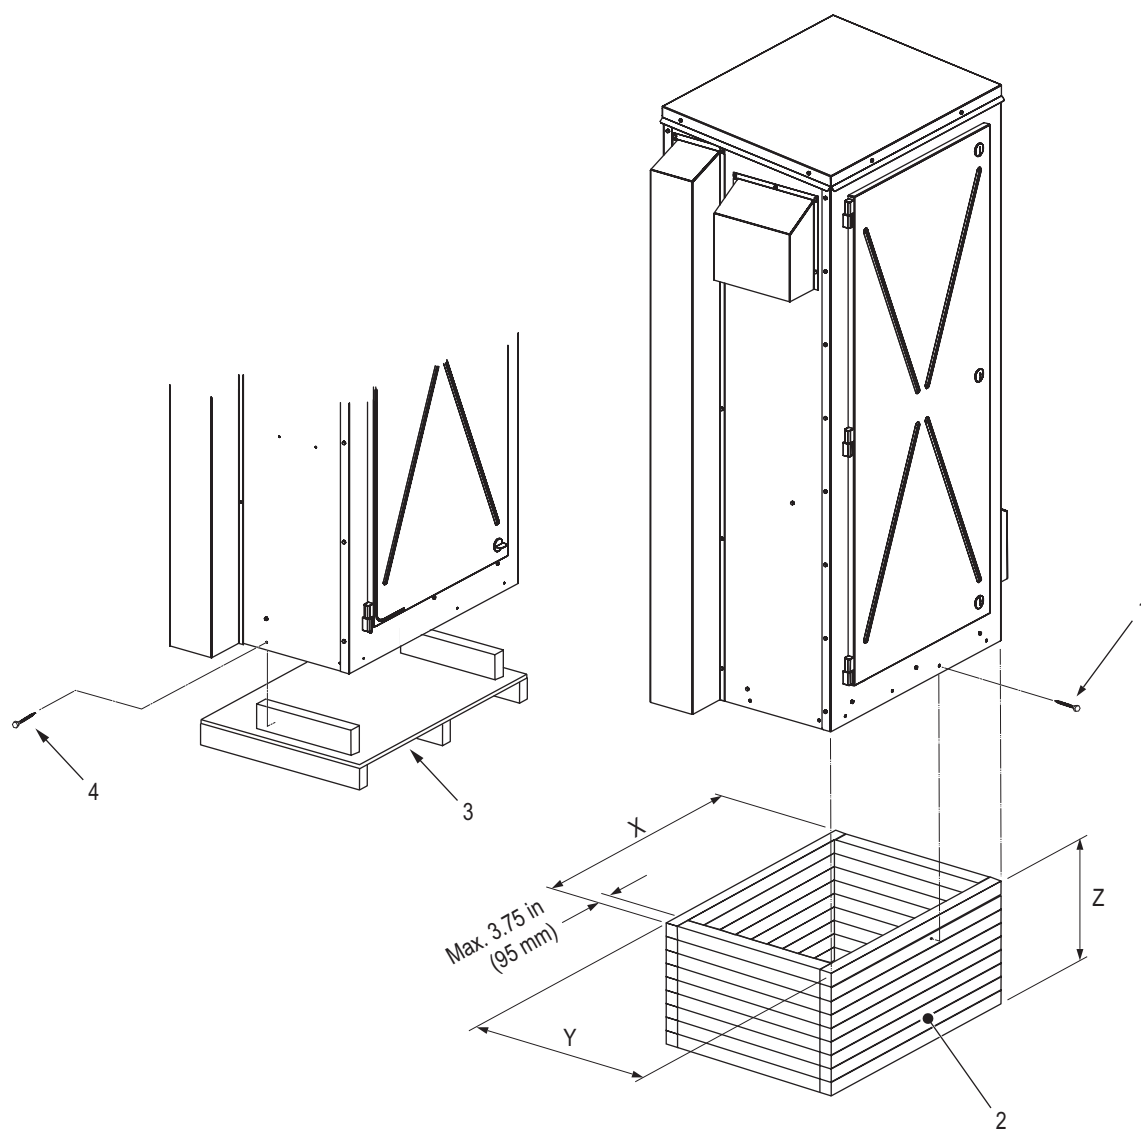

Figure 11: Rooftop Curb Mounting
3. Construct the curb to the dimension shown in Figure 11 on page 31 and Table 6. Make sure that the curb is capable of supporting the full operating weight of the unit – refer to Table 9 on page 60.